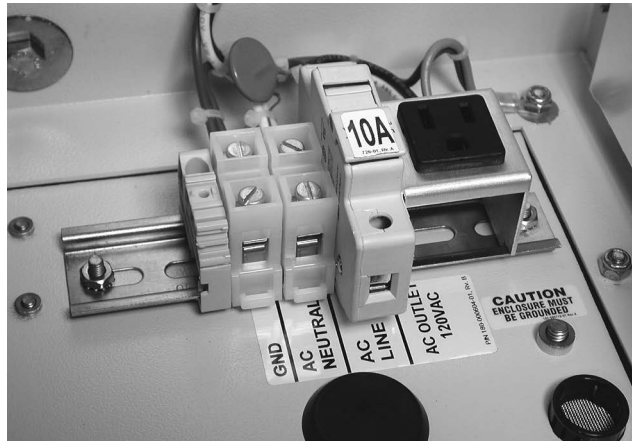

Figure 11. Connection terminal for ac control power.
- (d) Verify neutral and connect it to the Ac Neutral terminal. Then, connect the line to the Ac Line terminal. See Figure 11 on page 20.
If the AC ON and CHG ON LEDs do not illuminate, check the external ac voltage source (if applicable). The ac test points are located on the terminal strip at the ac fuse housing. See Figure 11 on page 20. If ac control power is present, see Instruction Sheet 1042-550, “S&C 5800 Series Automatic Switch Control with IntelliTeam® Automatic Restoration System: *Troubleshooting*.”